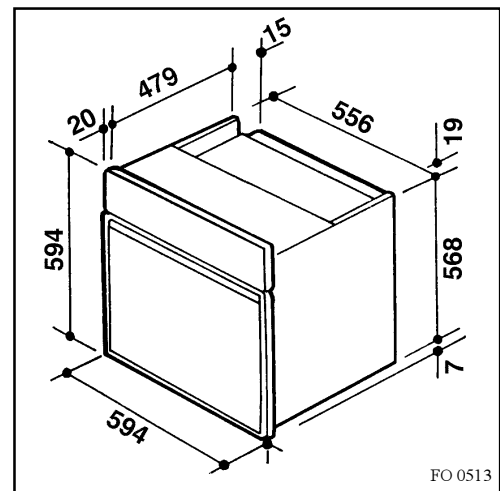

Fig. 9
**Overall dimensions of the oven (Fig. 9)**